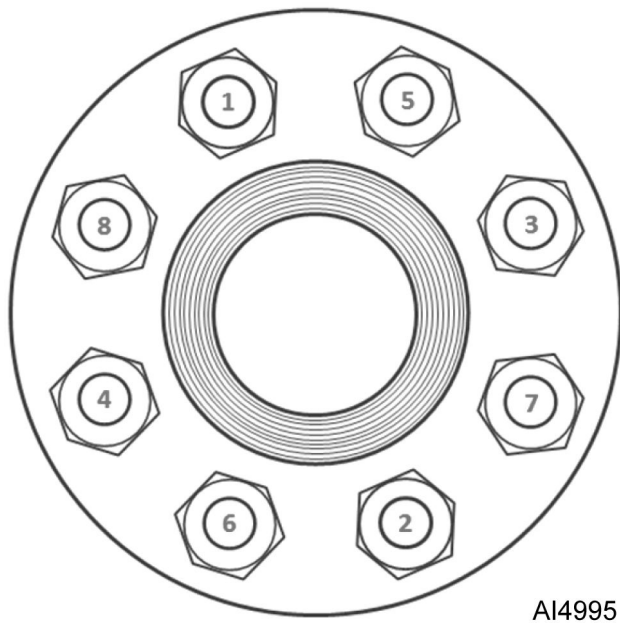

Fig. 11
9. Torque all flange bolts to 38 Ft/Lbs. in 3 passes as shown in Fig. 11.